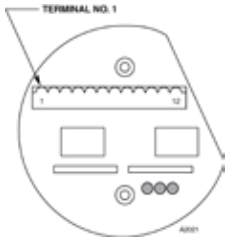
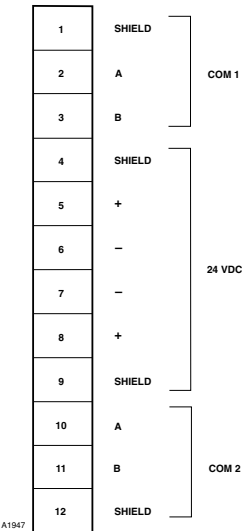

Figure 3-2—Network Extender Wiring Terminal Location
Figure 3-3—Network Extender Wiring Terminal Identification
- 2. Connect 24 Vdc power lead wires and communication network cable to the terminal block. (See Figure 3-2 for terminal location and Figure 3-3 for terminal identification).